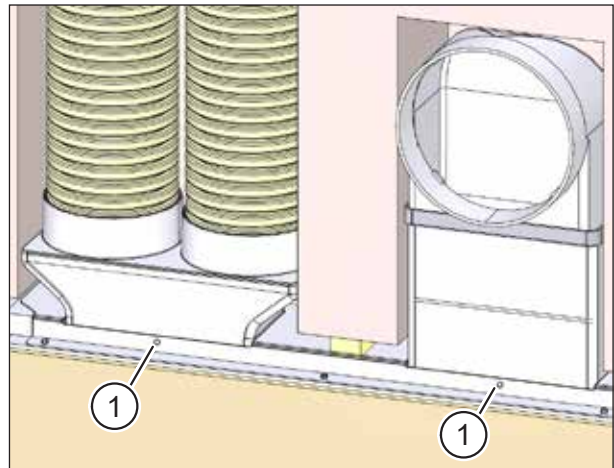

Fig. 59: Fixing the connections for flat ductwork/flexible pipe to the wall box
There are two holes (item 1 in Fig. 59) in the plastering trim for fixing the flat ductwork or flexible pipe connections to the wall box with blind rivets if necessary. These holes will also need to be drilled in the flat ductwork or flexible pipe connections.
- ▶ Use the 3 mm drill bit to drill through the holes in the plastering trim (item 1 in Fig. 59) and into the flat ductwork or flexible pipe connections.